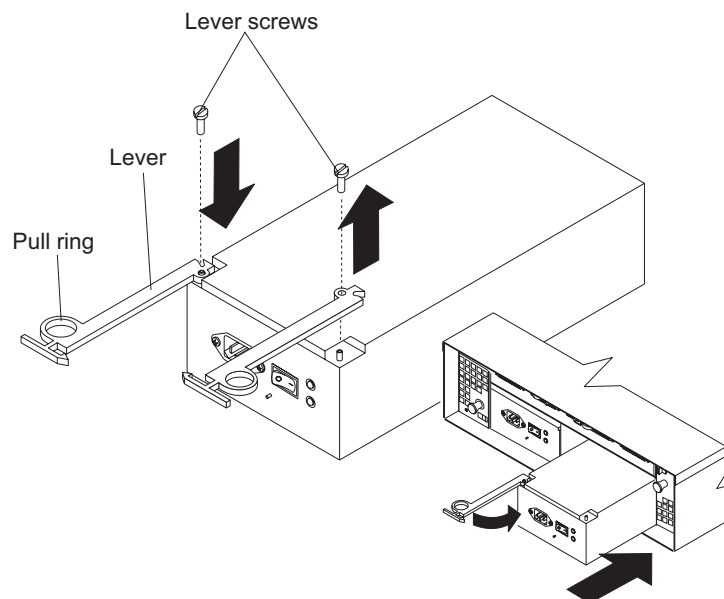

Figure 45. Moving the power supply lever and replacing the failed hot-swap power supply
Note: Before you replace the failed power supply, ensure that the new power supply lever is attached to the side of the power supply that faces the middle of the expansion enclosure. If it is not, remove the lever screw, flip the lever over, and tighten the screw on the opposite side as shown in Figure 45.
- a. Slide the power supply into the expansion enclosure. Be sure that the lever is pulled straight out as you slide the power supply into the expansion enclosure (see Figure 45 on page 86).